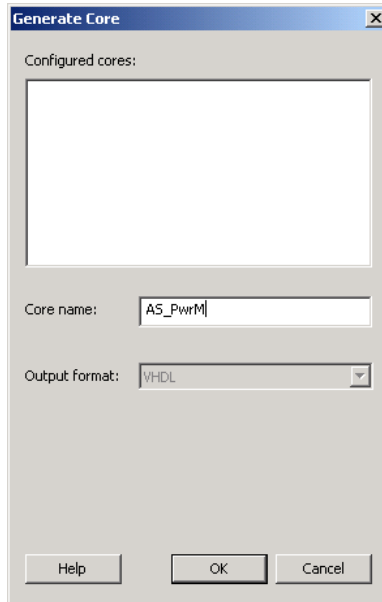

Figure 1-14. Generate AS_PwrM Core
13. Click **Generate**. Enter the core name **AS_PwrM**, and click **OK** (Figure 1-14).